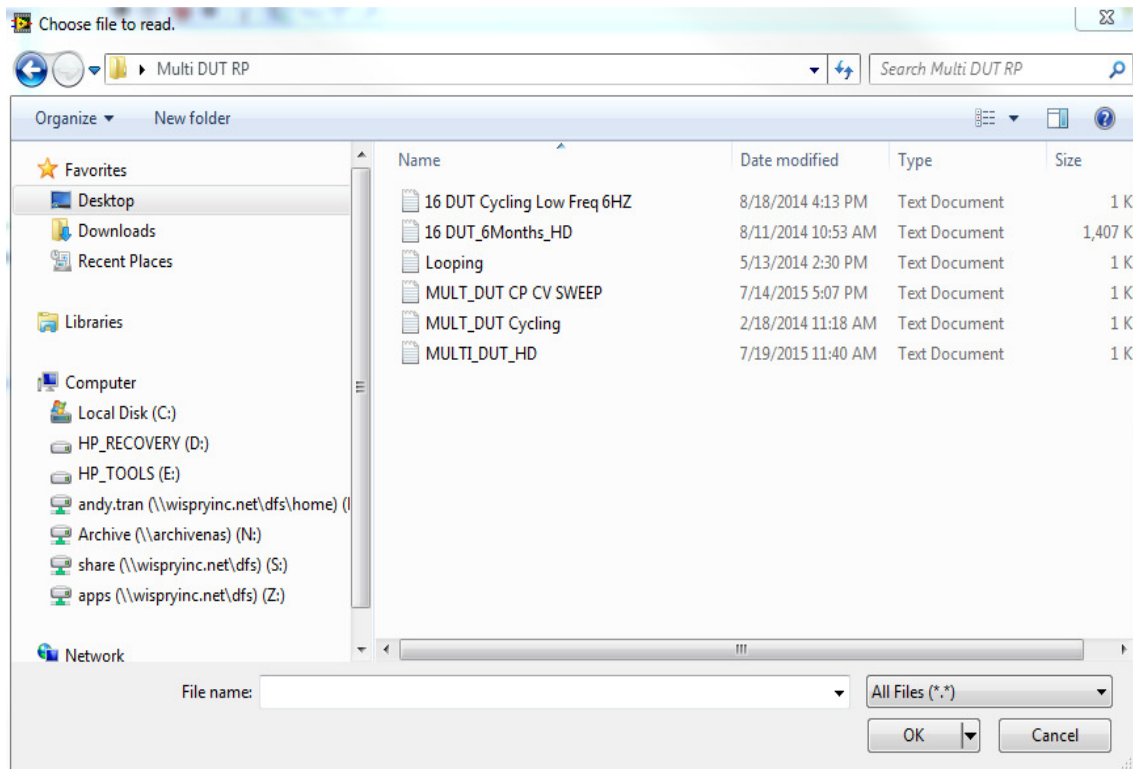

Fig. 3
- From labVIEW test program click  this button at the top left corner to run the test program, it will pop-up a dialog box (Fig. 3) below to ask the look up table for read point